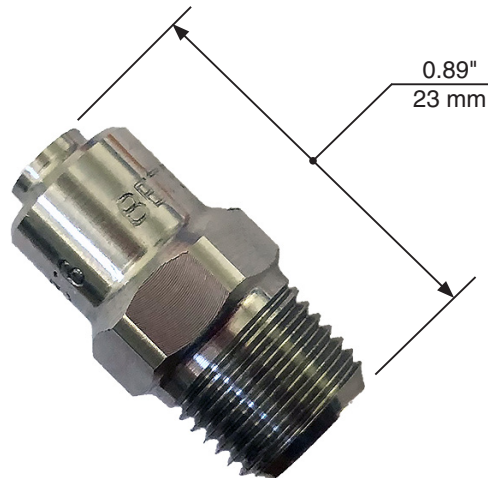
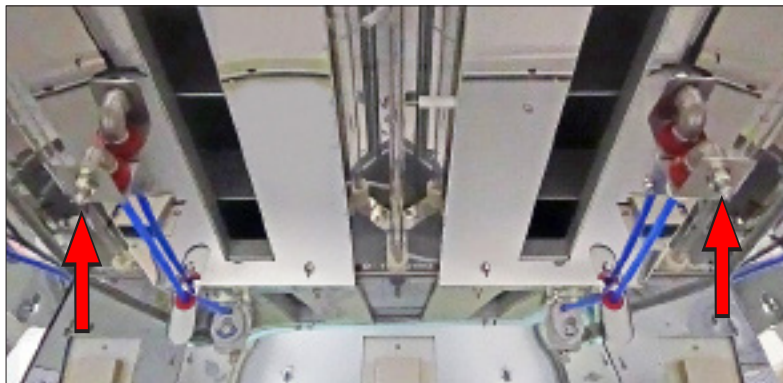

Figure 9.1a: Spray nozzle.
Figure 9.1b: Front spray nozzles on test chamber ceiling.
- Q-SUN Xe-3 front spray (S) models have two water spray nozzles (Figure 9.1a and Figure 9.1b).